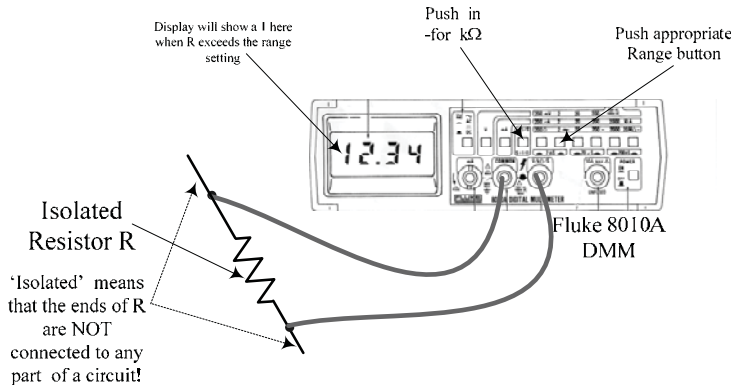

Figure 1.2: Fluke 8010A DMM in the Ohmmeter mode
**Resistance measurement:** The Fluke 8010A DMM in its ohmmeter mode is shown in Figure 1.2. The term ‘isolated’ means that the resistor-under-test should be effectively disconnected from any circuit. The 8010A DMM terminals used for R measurement are the same as those used for voltage.